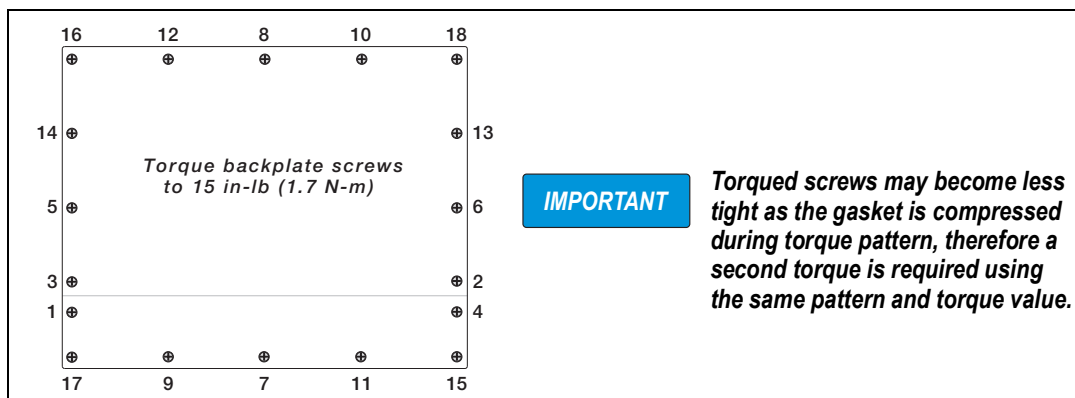

Figure 3-1. 920i Enclosure Backplate
3. Torque screws to 15 in-lb (1.7 N-m), using pattern shown in Figure 3-1, to prevent distorting the back plate gasket.
4. Re-install the backplate, see Figure 3-1 on page 6.